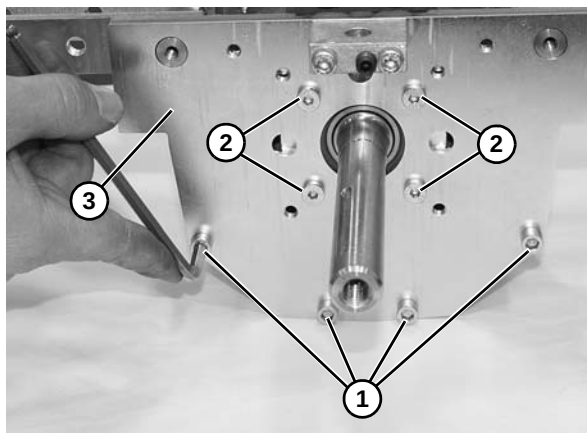

Figure 90
10. Remove four socket head screws (**Figure 90, item 1**).
11. Remove four low head cap screws (**Figure 90, item 2**) and remove side plate (**Figure 90, item 3**).